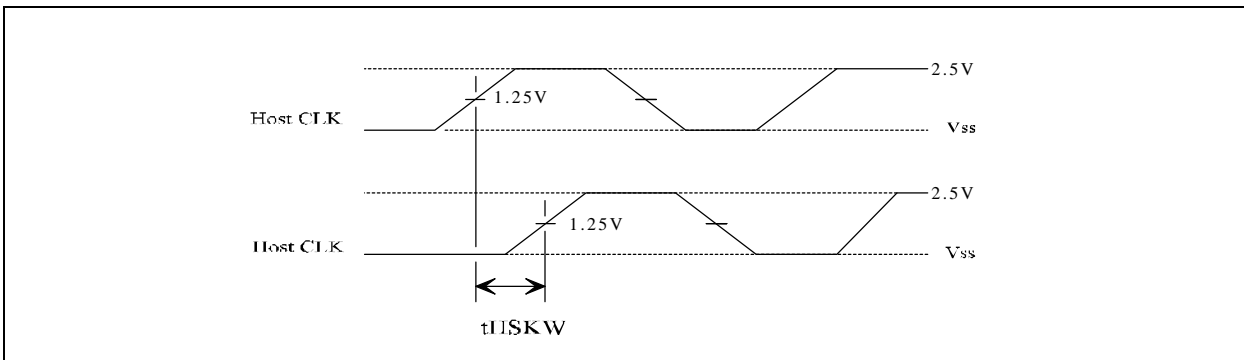
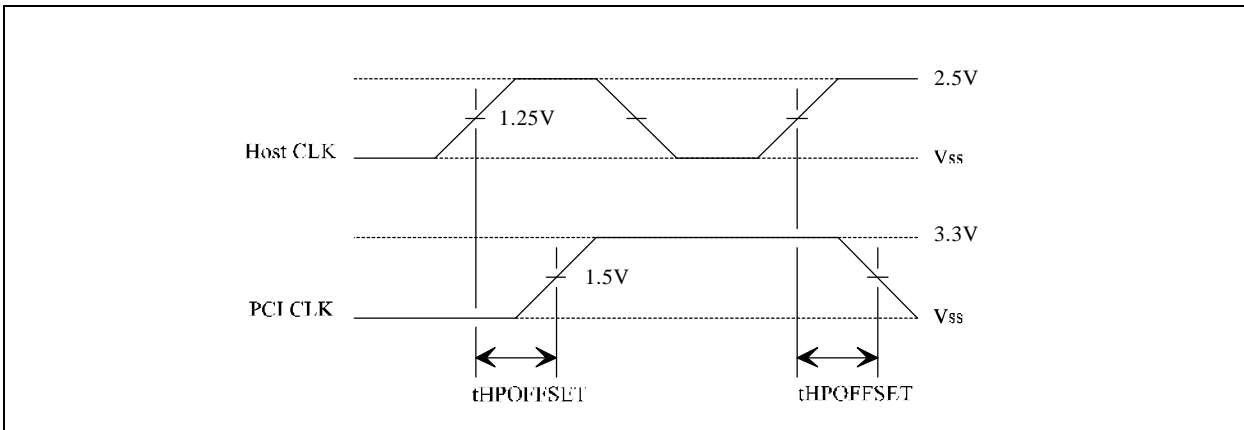

Figure 4-2. Host CLK to Host CLK Skew
Figure 4-3. Host CLK to PCI CLK Offset
3. The Host CLK must always lead the PCI CLK as shown in Figure 4-3. This must be guaranteed by design under the test load conditions.
For 3.3V clocks the threshold is 1.5V, and for 2.5 volt clocks the threshold is 1.25 volts. Figure 4-2 and Figure 4-3 below only show 2.5 volt host clocks.